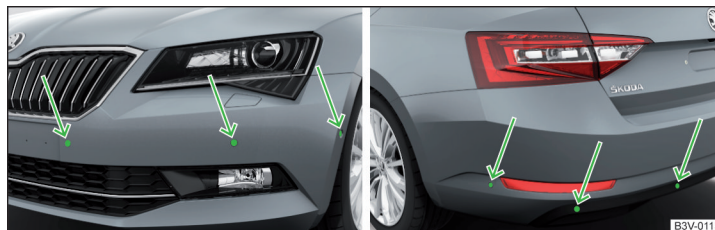

Fig. 270 Installation location of the sensors on the left side of the vehicle: front/rear
- Keep the system sensors » Fig. 270 on page 220 clean, snow-and-ice-free and do not cover with any objects of any kind, otherwise the system functioning may be impaired.
The system uses ultrasound waves to calculate the distance between the bumper and an obstacle. The ultrasonic sensors are, depending on vehicle equipment, located in the back or in the front bumper » Fig. 270.